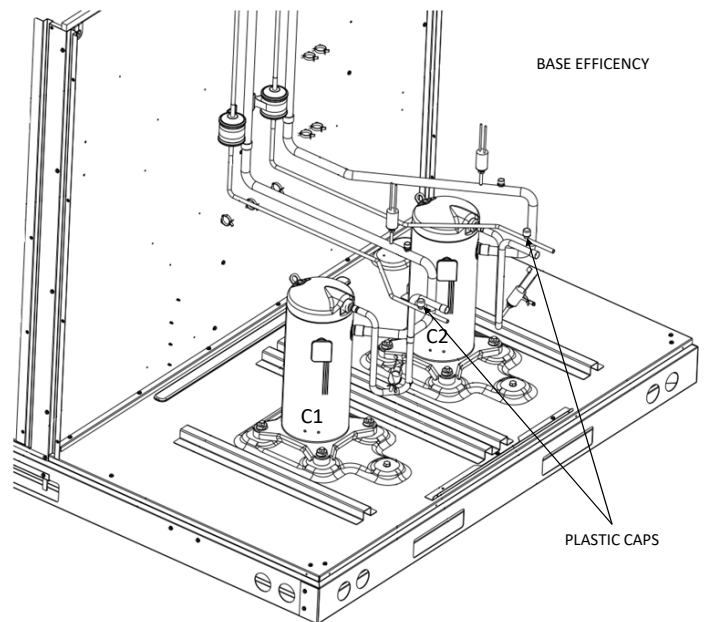

FIGURE 16
- Remove the plastic caps from the two liquid line access fittings. See Figure 16 & 17.